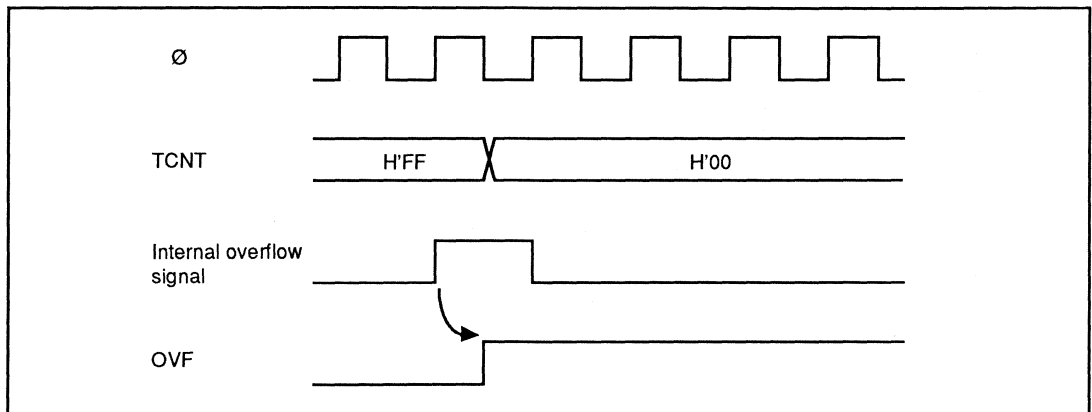

Figure 8-10. Setting of Overflow Flag (OVF)
(1) **Setting of TCSR Overflow Flag (OVF)**: The overflow flag (OVF) is set to 1 when the timer count overflows (changes from $H'FF$ to $H'00$). Figure 8-10 shows the timing of this operation.